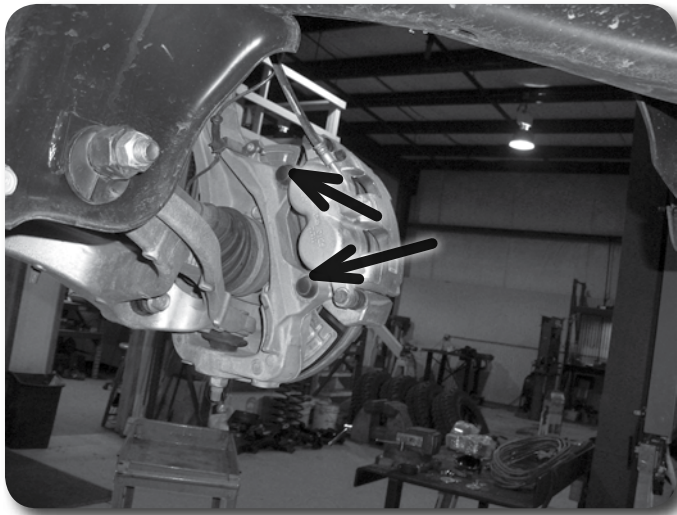

Figure 4
12. Remove the brake caliper anchor bracket bolts **Figure 4** and pull the caliper free from the steering knuckle and rotor. Hang the caliper securely out of the way. Retain caliper mounting hardware. Remove the brake rotor from the hub.